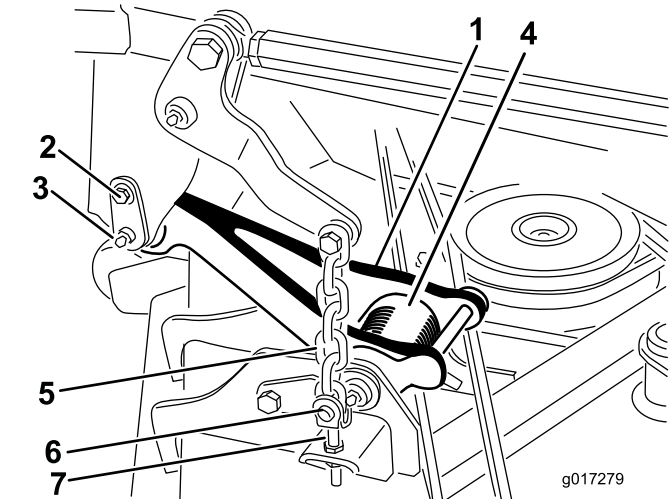

Figure 2
Note: When the mower is in the raised position, the pull link torsion spring tension (Figure 2) is reduced making it much easier to disconnect the pull links from the machine.
2. Disconnect the pull link from each side of the machine (Figure 2).
- A. Remove the shoulder screw that secures the retainer pin to the carrier frame (Figure 2).
- B. Carefully slide the retainer pin from the carrier frame and the pull link (Figure 2).
6. Remove the (4) ring pins and clevis pins that secure the lift chains to the adjustment clevises on the mower (Figure 2).
2. Install the (4) clevis pins and ring pins to secure the mower lift chains to the adjustment clevises on the mower (Figure 2).
5. Align the pull link to the carrier frame and attach the link with the retainer pin (Figure 2). Secure the retainer pin to the frame with the shoulder screw (Figure 2).